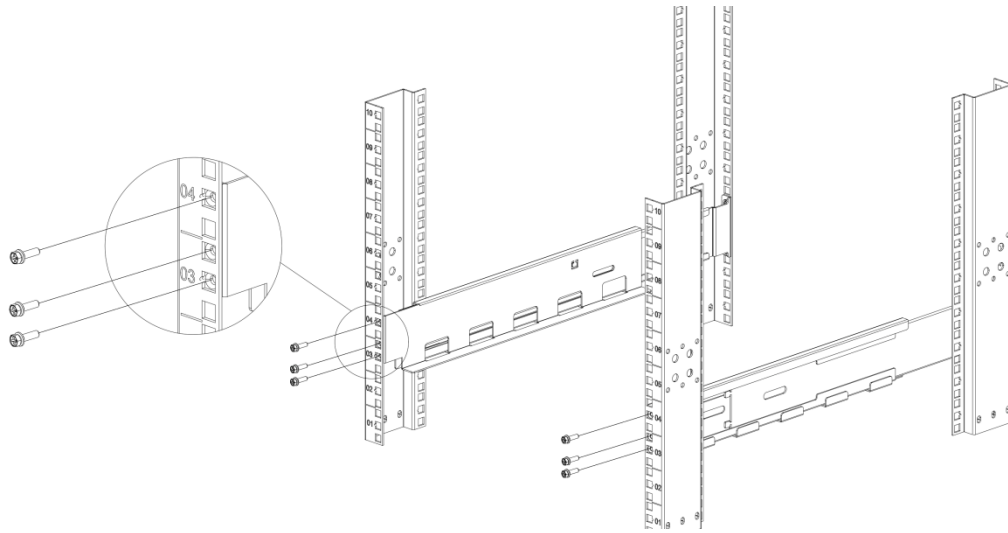

**Figure 9: Secure the Mounting Brackets to the Rack**
16. Align the mounting brackets with the screw holes on the rack and secure the UPS with the supplied 4x Phillips Hex Head M5 screws (see Figure 9).